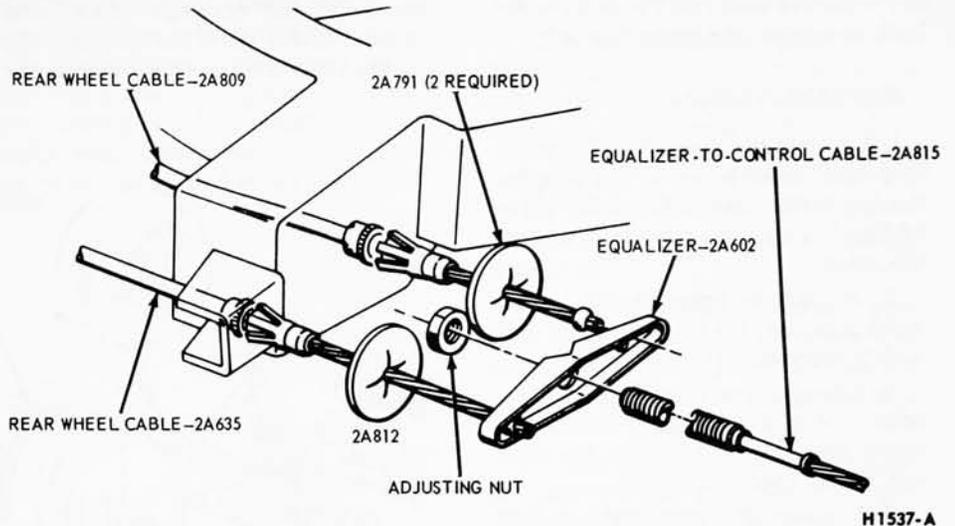

Fig. 6—Parking Brake Linkage
3. Raise the vehicle. With the transmission in neutral, turn the adjusting nut forward against the equalizer (Fig. 6) until a moderate drag is felt when turning the rear wheels (approximately 100 lbs of force at the outside diameter of the tire is required to turn the rear wheels).